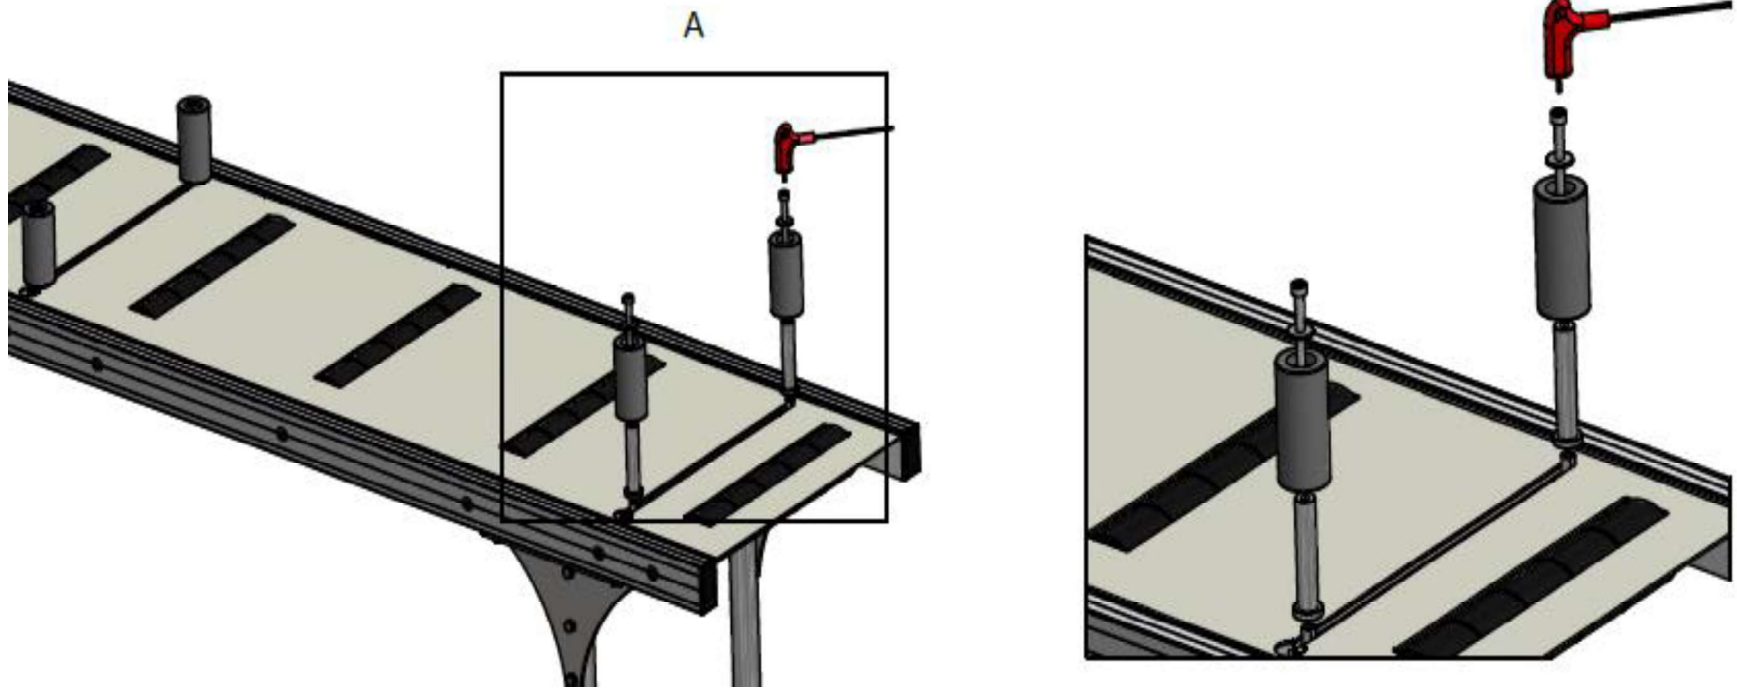

FIGURE 14
- Mount the upper support of conveyor with the help of imbus bolts as shown in figure (FIGURE 14).